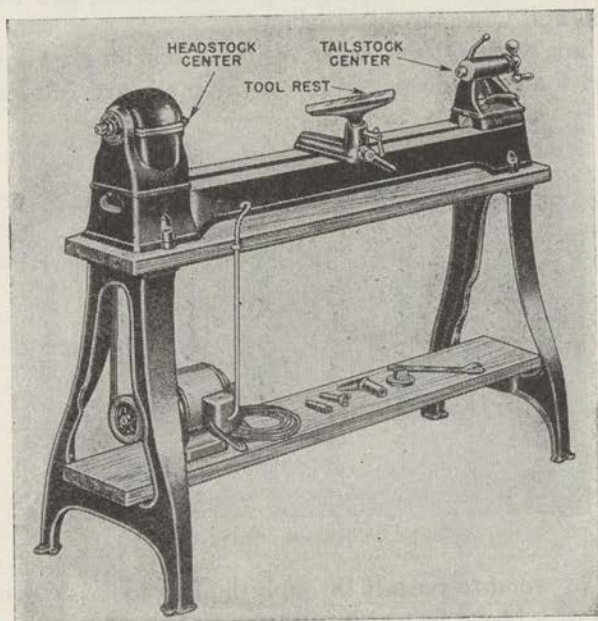
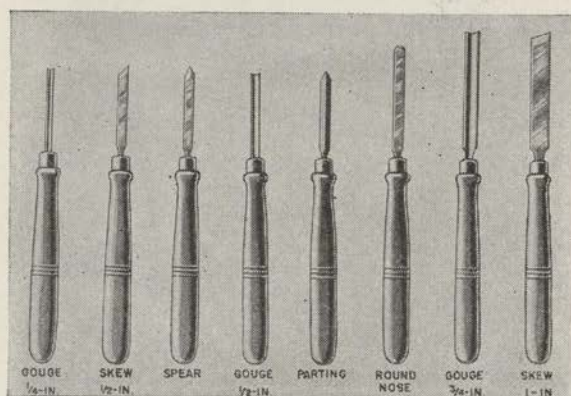

FIGURE 67.—Wood turning lathe.
FIGURE 68.—Wood turning tools.
j. Wood turning lathes (fig. 67).—Wood turning lathes are used for shaping round work. The work is rotated rapidly between the headstock and tailstock centers on the lathe. With a turning tool supported on the tool rest, the rotating wood can then be shaped. The turning tools (fig. 68) are similar to ordinary chisels and gouges, and are sharpened in the same way, but lathe tools are somewhat longer. Several types of automatic lathes are used in production shops. A metal working lathe can be used for wood turning, if it can be run fast enough. Special pulleys can be bought from the manufacturers for making the conversion, or they can be made up